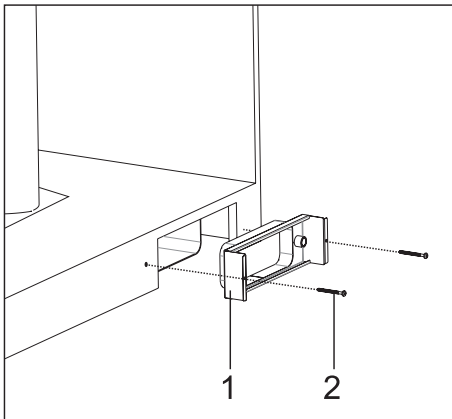

Fig. 42
- 6. Insert the activated carbon filter housing (Fig. 42/1) into the prepared opening.
Fixate the activated carbon filter housing (Fig. 42/2) inside the prepared opening using 2 screws.